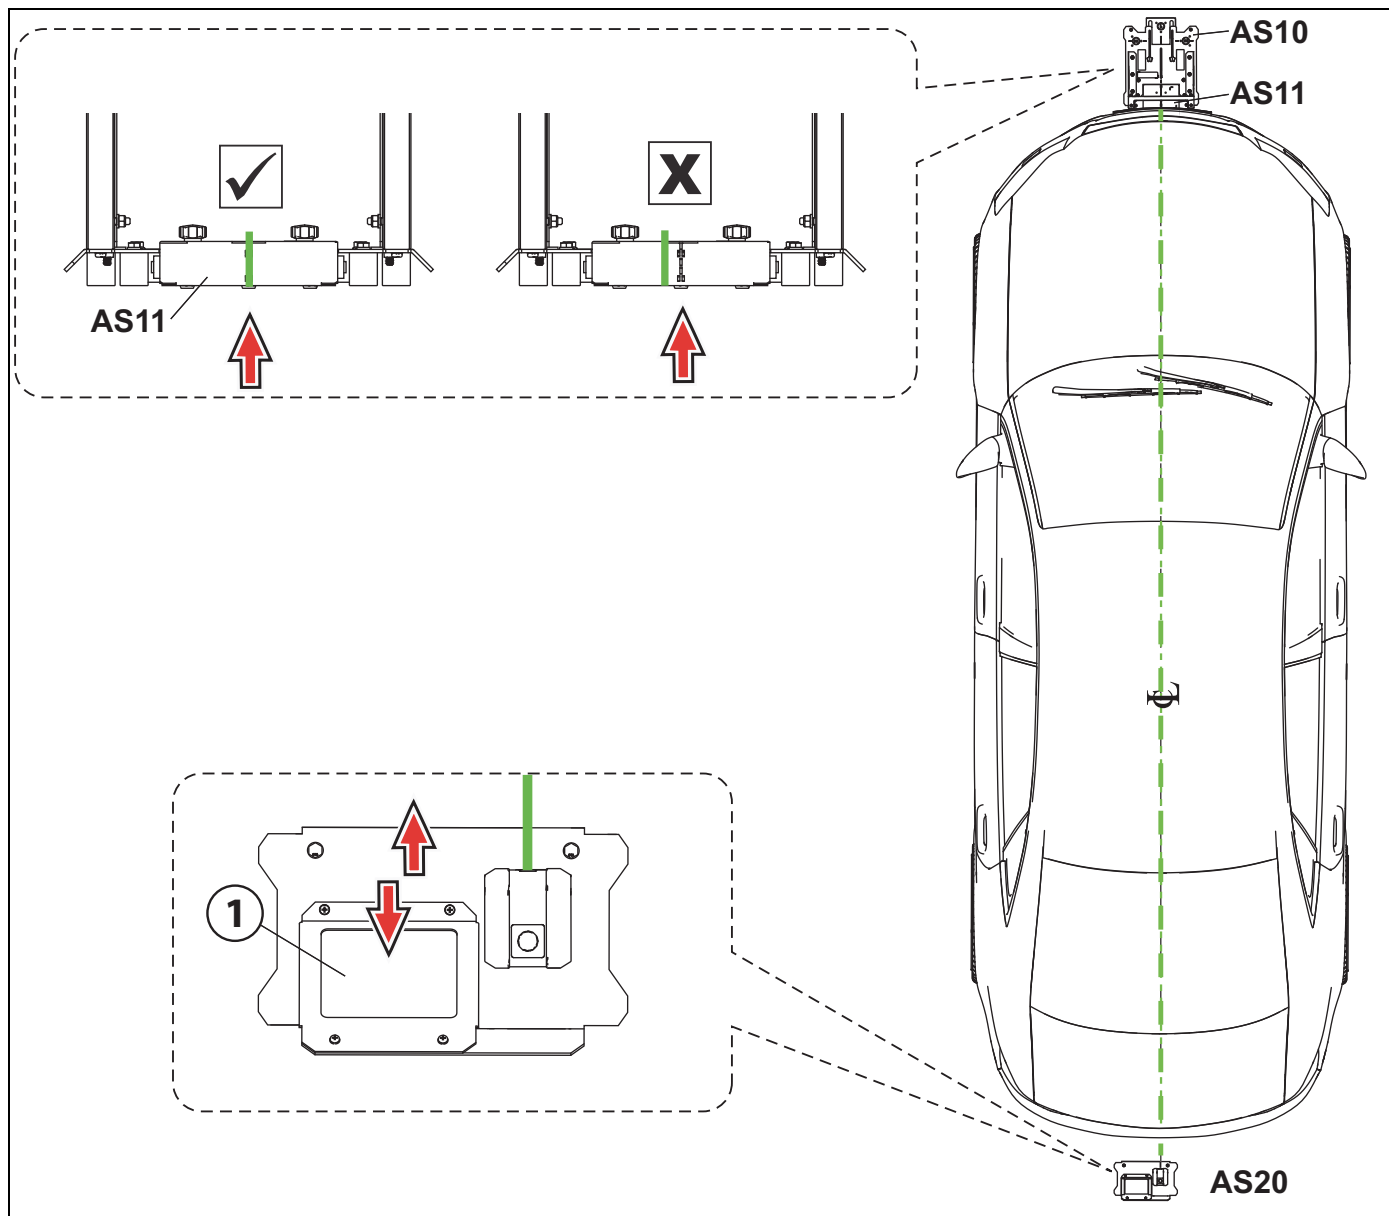

Figure 6-3
8. While maintaining the AS20 laser alignment with the vehicle centerline, simultaneously align it (under the vehicle) with the center mark on the AS11 alignment plate at the front of the vehicle (Figure 6-3).
Use the mirror on the AS20 fixture to aid in alignment, see item 1 in Figure 6-3.